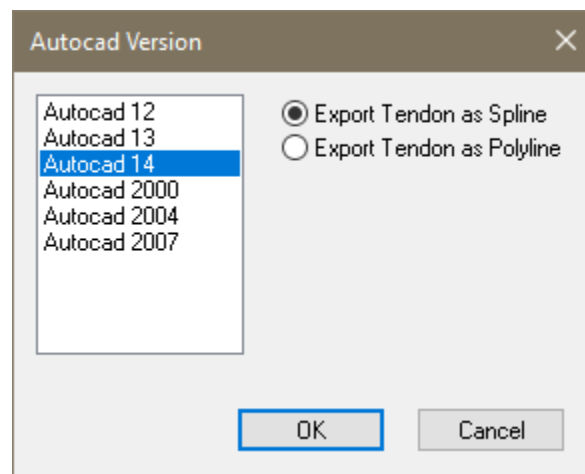

Figure 7-27
- We can now export the rebar to a CAD drawing in order to produce our documentation. Go to *File* → *Export* → *DWG*. This will open the AutoCAD Version window where the user can choose the drawing version as well as, whether they want the drawing to export tendons as Polylines or Splines as shown in **FIGURE 7-27**.